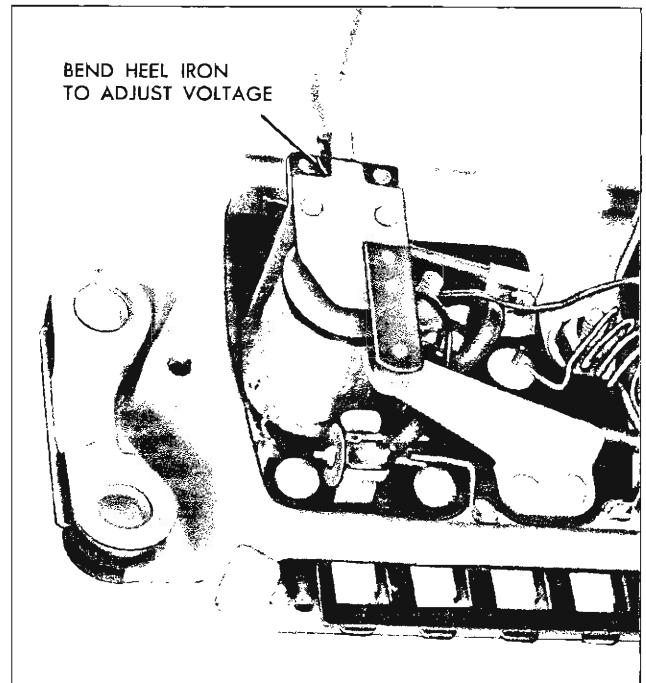

Fig. 17—Adjusting Field Relay Closing Voltage
4. Slowly decrease resistance and note closing voltage of the relay. Adjust by bending heel iron in the manner illustrated in Figure 17.